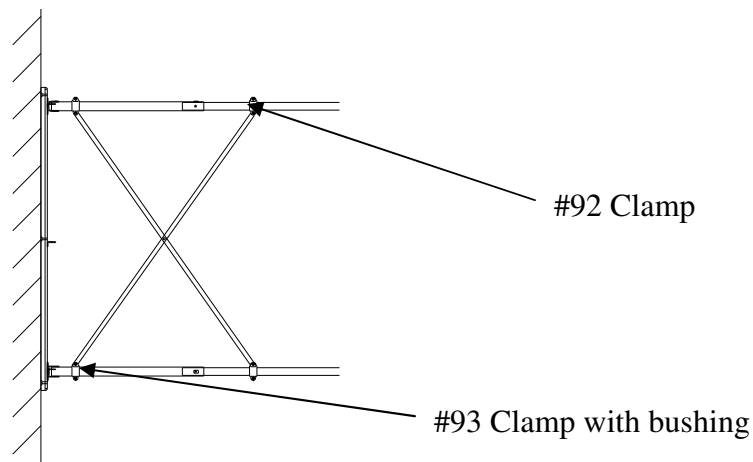

Figure 6. Cross bracing example.
- 16) To further brace the unit, the strap bracing should be installed on the lower extension arms. To complete this, the #93 clamps with bushings should be attached to the outer extension pipes. On the inner pipes, as close to the outer pipe as possible, attach #92 clamps. Before tightening down the carriage bolts, install the strap bracing on each clamp (as shown in Figure 6). Secure the two braces together with a hex bolt and lock nut.